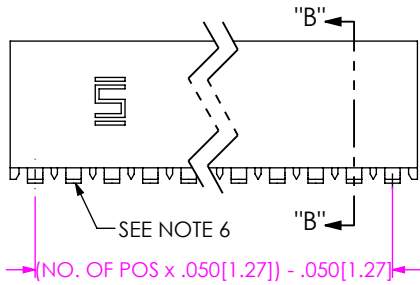

FIG 2
- 02: SURFACE MOUNT (USE CONTACT: C-44-02-XXX) (SEE FIG 2, SHT 2)
- L2: SURFACE MOUNT (LOW INSERTION) (USE CONTACT: C-61-02-XXX) (SEE FIG 2, SHT 2)
- T2: SURFACE MOUNT (PHOS BRONZE) (USE CONTACT: C-119-02-XXX) (SEE FIG 2, SHT 2)